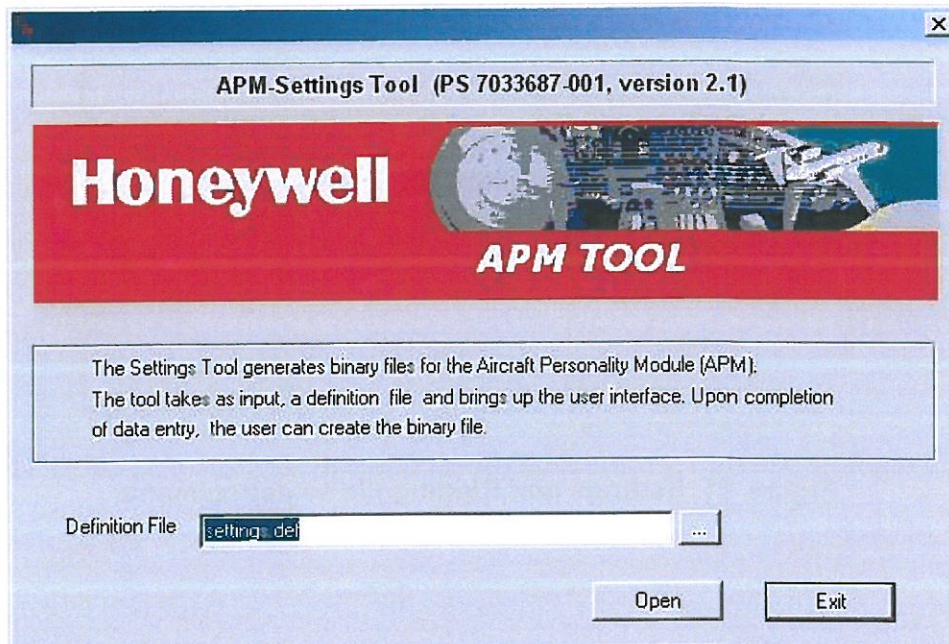

Figure 10: APM Settings Tool Start-up Screen – Definition File Selection
6. Launch the APM Settings Tool.exe (Figure 10).